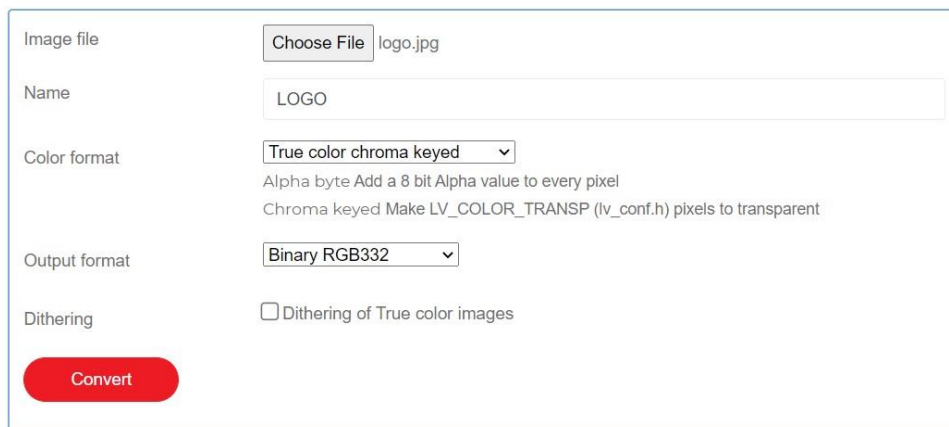

Figure 4-1: Online Image Converter
1. Choose an Image (png, jpg, or bmp) (see Figure 4-1).